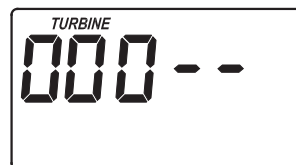

FIG. 16
1. Press and hold the PROGRAM button for a few seconds, until the "000 - -" screen appears, as shown in Figure 16.